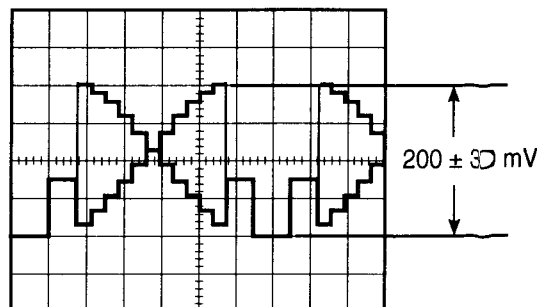

Fig. 5-17
- Set the Lens Iris so that the signal level at the pin 1 of CN2 becomes 200 ± 30 mV as shown in Fig. 5-17.